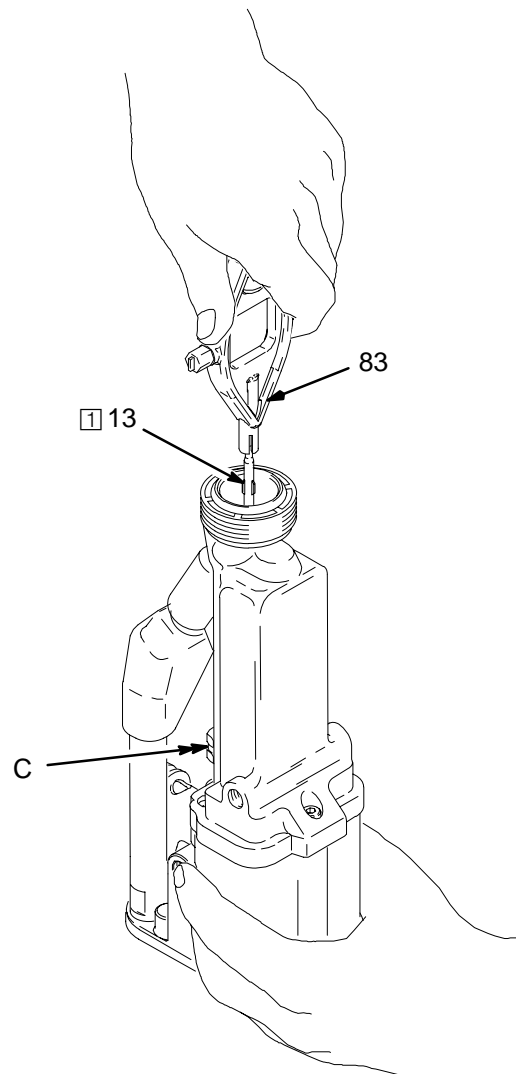

Fig. 28
2. Make sure the electrode needle (13) is tightened properly. Refer to Fig. 28.
3. Unscrew and remove the electrode needle (13) with the multi-tool (83). See Fig. 28. Be careful not to damage the contact wire. If the fluid rod turns, hold the back end of the fluid rod (C).